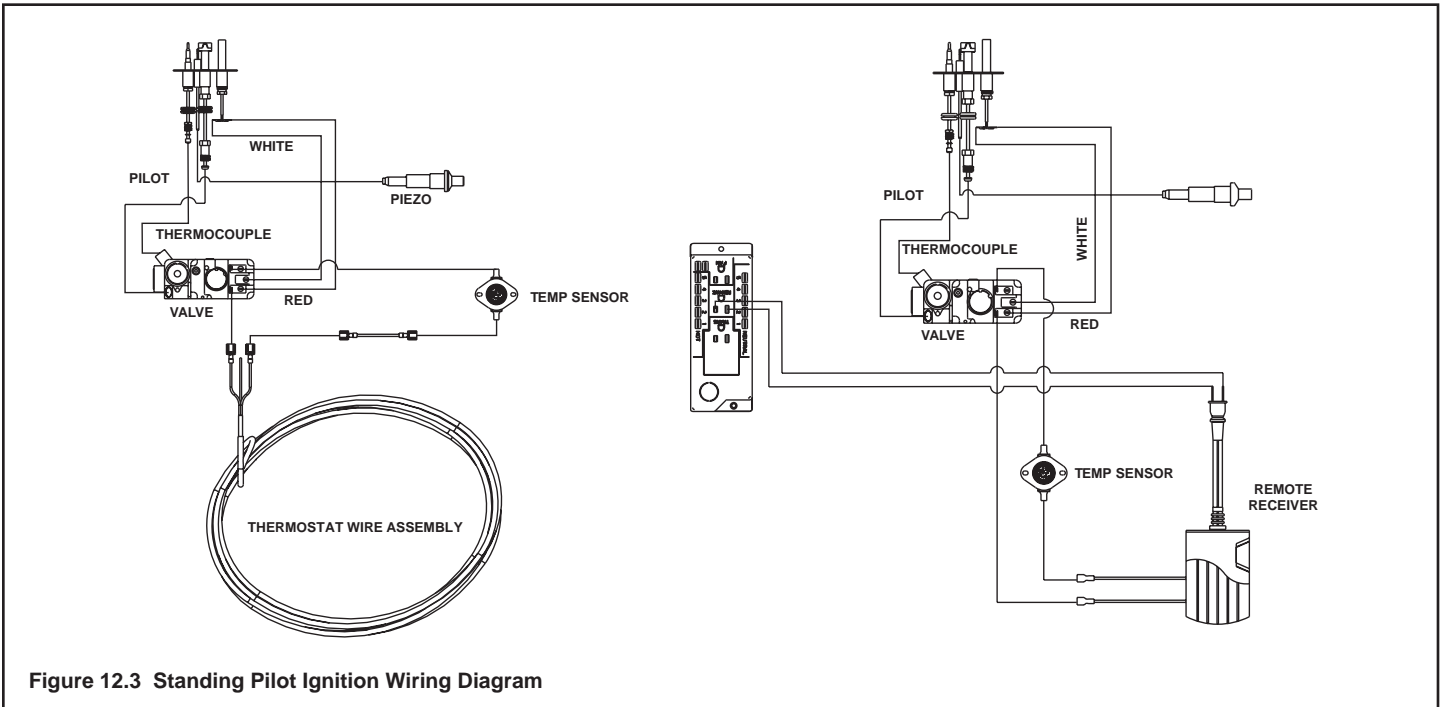

Figure 12.3 Standing Pilot Ignition Wiring Diagram
- A 110 VAC junction box **MUST** be installed for use with a fan or remote control. See Figure 12.3 for junction box wiring. Keep wire lengths short as possible.